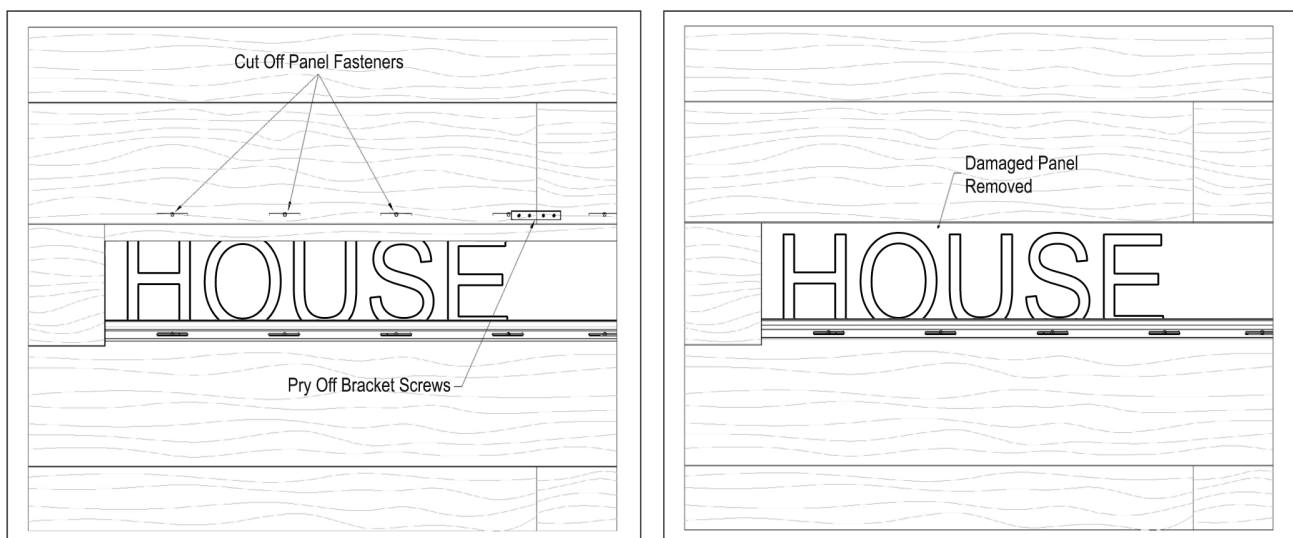

Figure 11
- Using a flathead screwdriver, pry loose the seam brackets connecting the damaged plank to the adjacent planks (Figure 11).
- Use a sawzall or oscillating tool to cut off the fasteners from the damaged plank and remove the top portion (Figure 11).